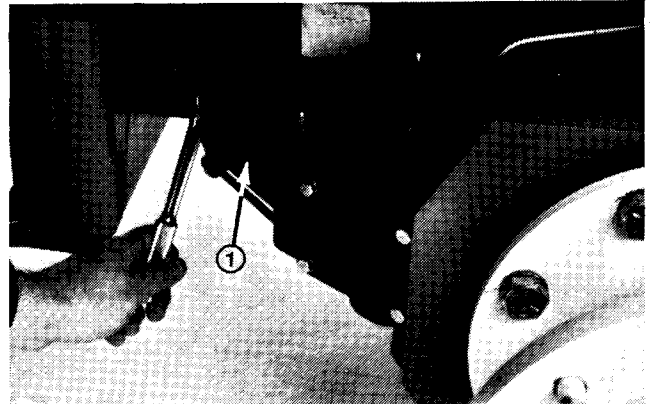
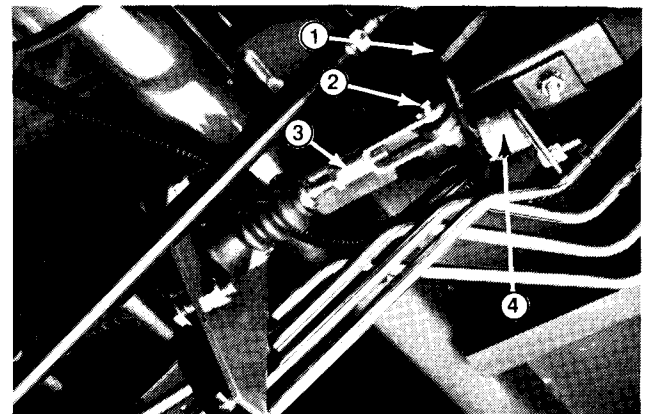

Figure 7
Figure 8
A. Use a $\frac{3}{8}$ in. drive $\frac{9}{16}$ in. deep well socket wrench to tighten adjusting nut on end of actuator until brakes are tight (Fig. 7).
B. Put a mark on the socket so you can count the number of rotations. Loosen the adjusting nut three (3) complete turns.
D. Check steering/parking brake pedal free play and adjust if there is more than one (1) in. of "free travel". Free travel is the distance the brake pedal moves before braking resistance is felt. (See Steering/Parking Brake Adjustment in this section of the book.)
2. Adjust service brake pedal (Fig. 8).